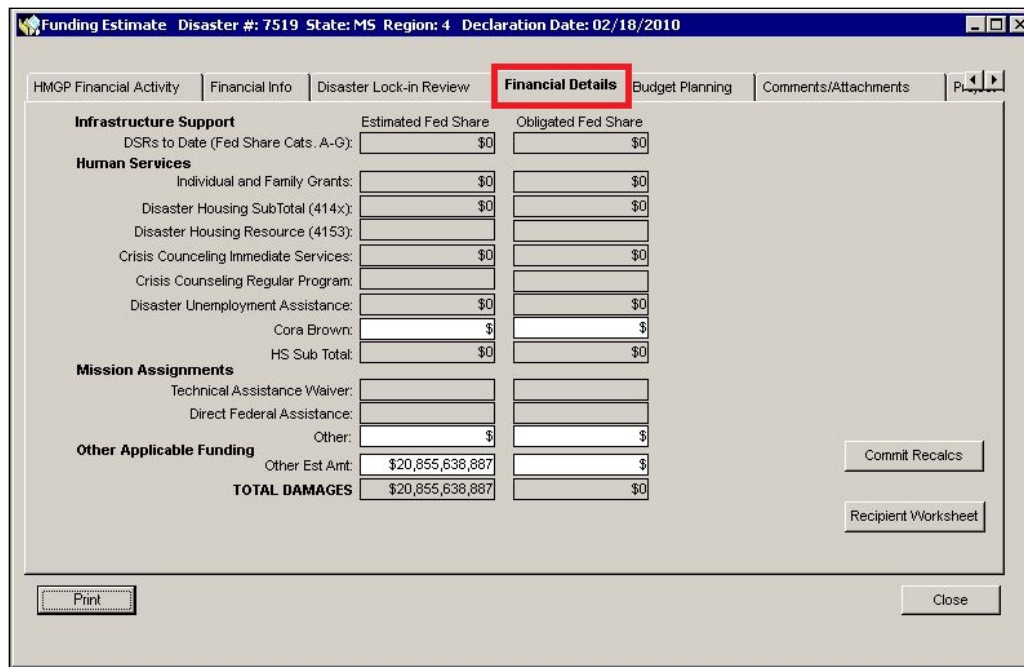

Figure 5-5: Mitigation > Funding > Estimate > Financial Details Tab
3. Click the **Financial Details** tab (Figure 5-5).